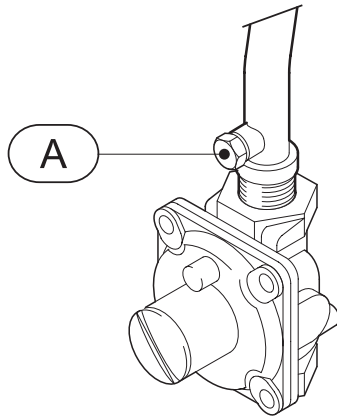

Fig. 15 Gas pressure measuring point
- ▶ Remove front cover and locate inlet gas pressure measuring tap above the regulator, see Fig. 15.